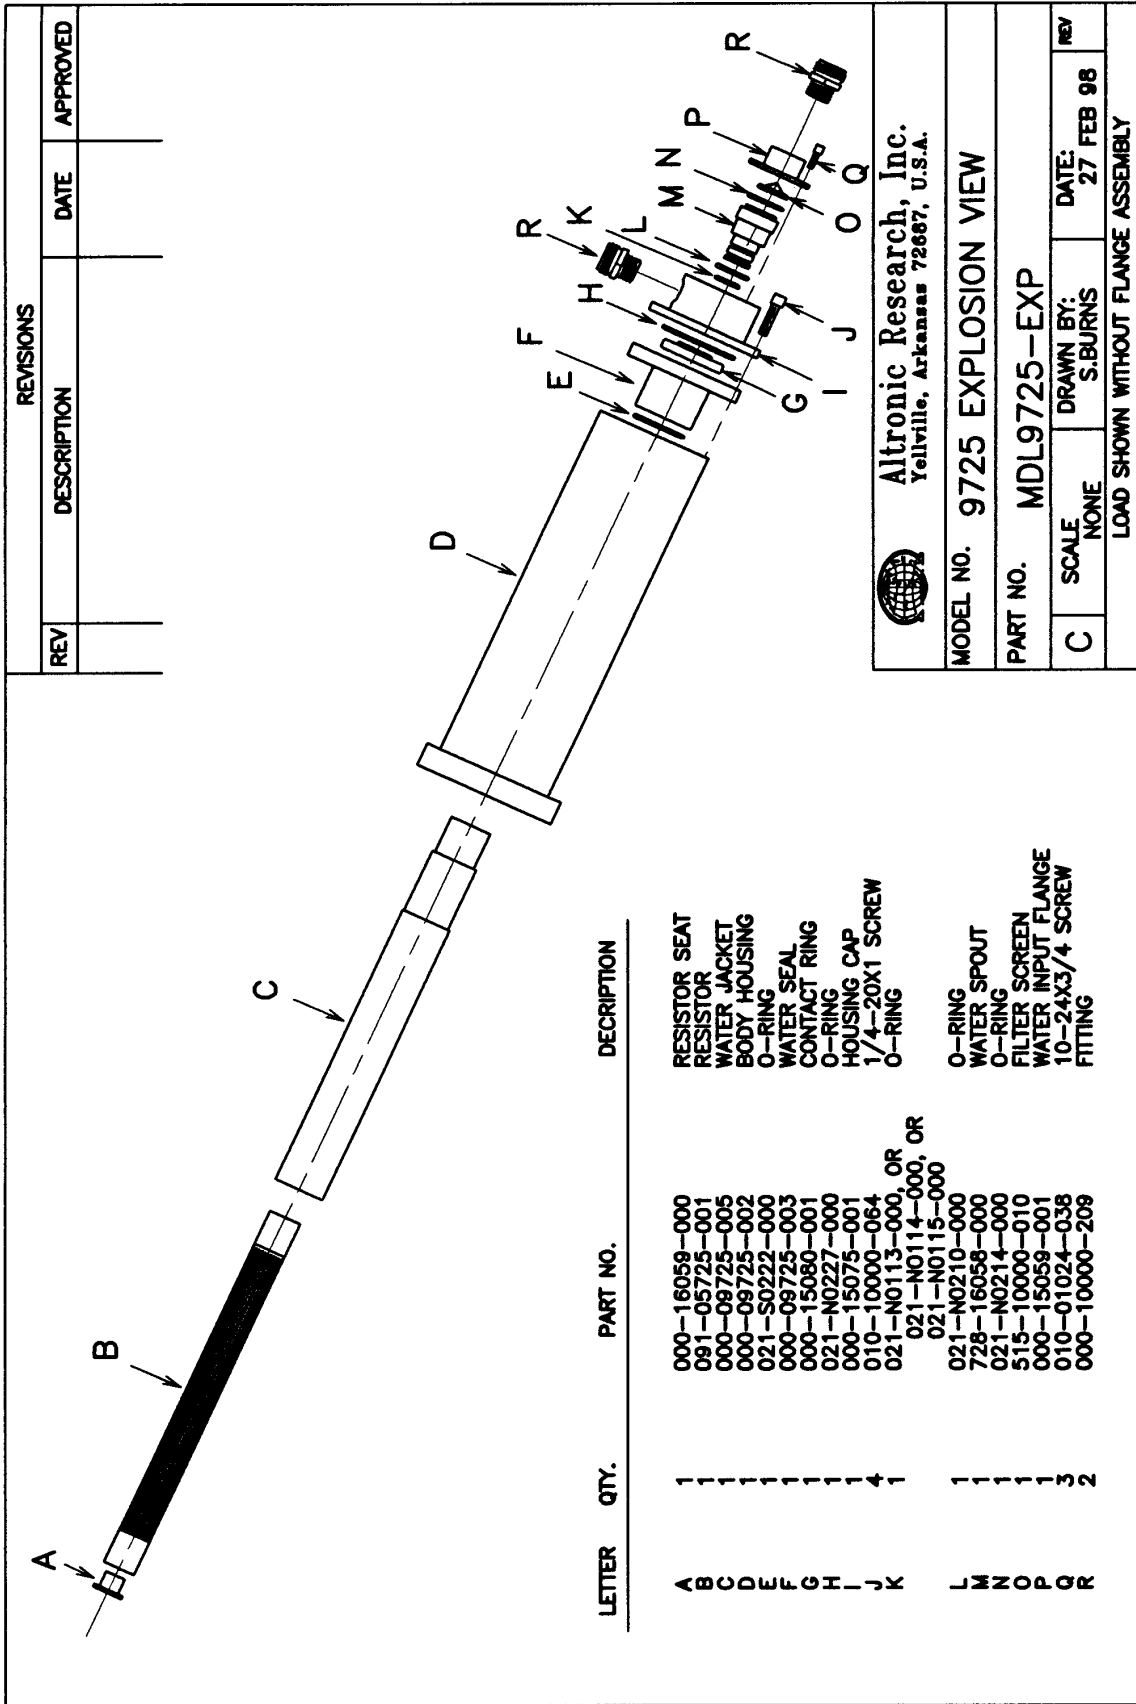
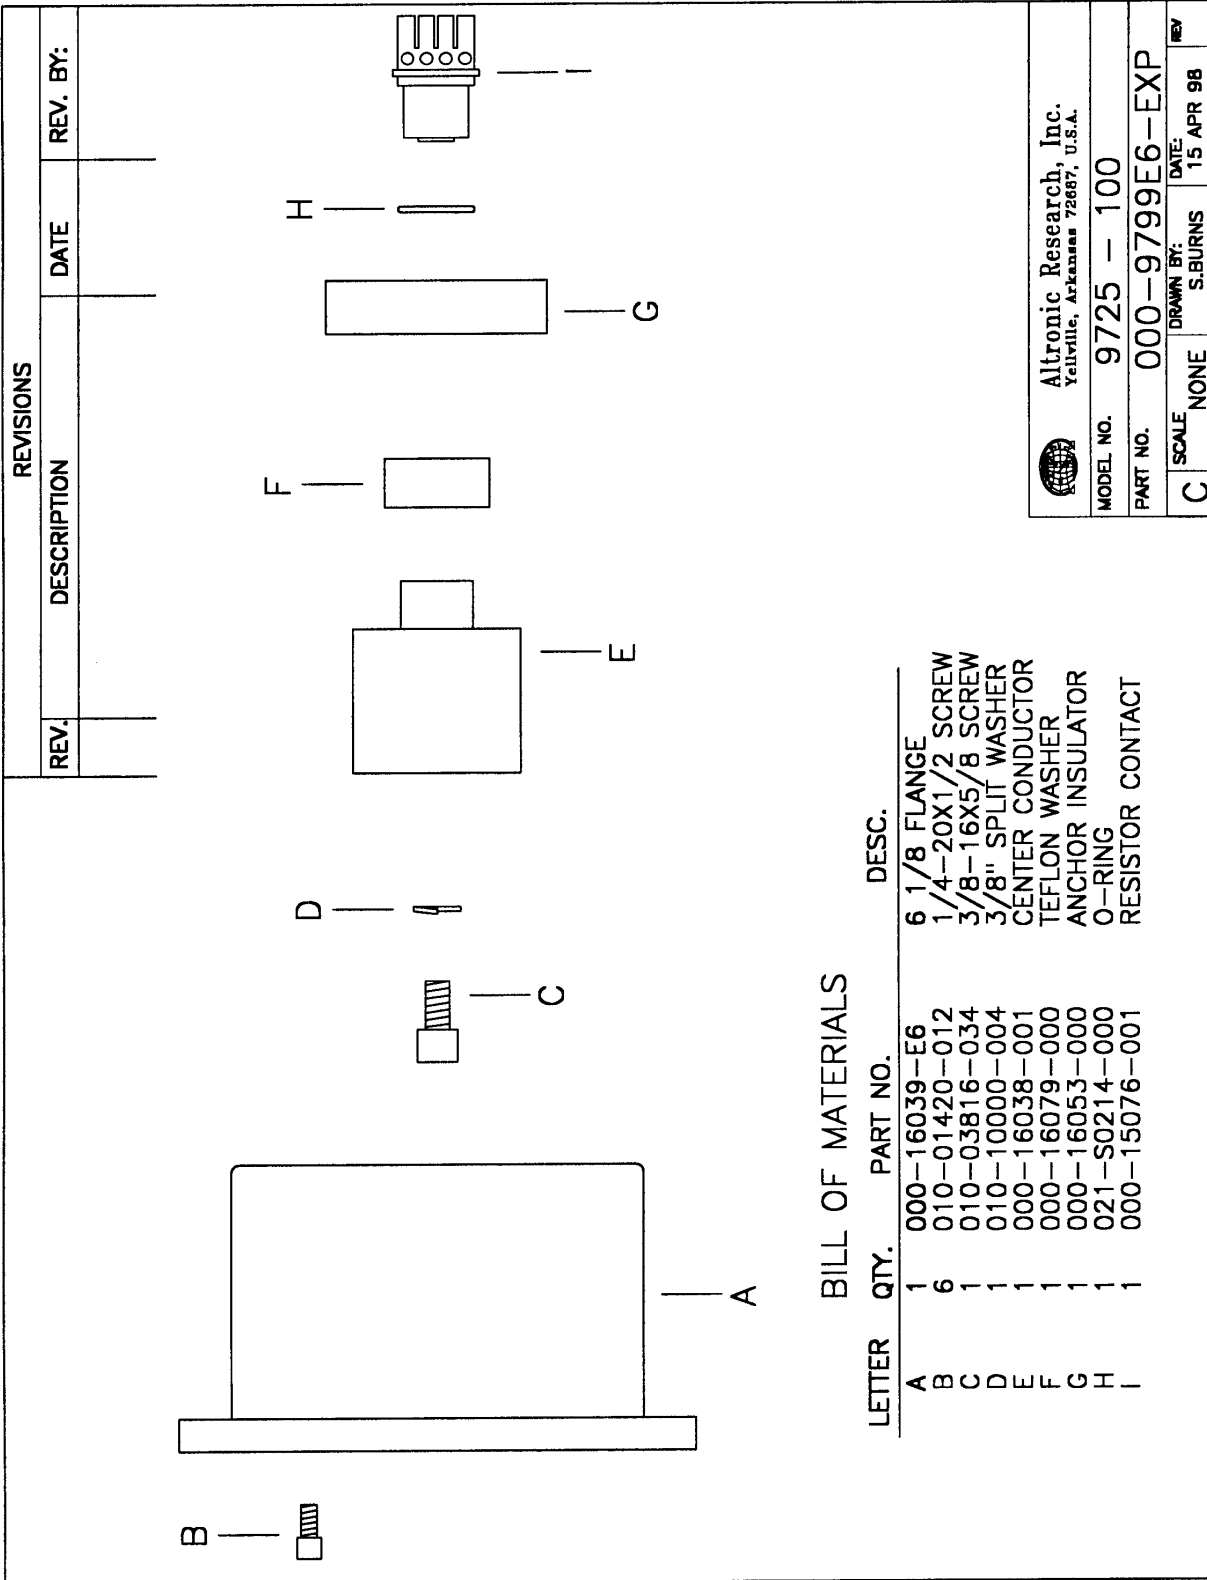

Fig. 14
Fig. 15
4. **Resistor Replacement** - (Refer to Fig. 14) To replace the resistor element, remove the three 10-24x3/8" cap screws (item Q). Remove water input assembly (items O, P, and R). Inspect filter screen for damage, replace if eroded or torn. Remove four 1/4-20x1" cap screws (item J). Remove housing cap assembly (items G, H, I, R, K, M and N). Inspect all O-rings for distortion or damage. Replace if pinched, cut, burned or no longer round in cross section. Inspect ring contact (item G) for signs of arcing or loss of silver in the
- 5. Removal of RF Input** - (Refer to Fig. 15) To remove the RF input line adaptor flange, remove six 1/4-20x1/2 socket head screws (item B) that secures the line adaptor flange (item A) to the load body housing (item D, Fig. 14). The RF input assembly consisting of the center conductor, anchor insulator and front resistor contact (items C, D, E, F, G, H and I) will normally remain in the load body. Grasp the center conductor (item E) by hand and attempt to pull the input assembly out of the load body using slight side to side motion while pulling. If strong resistance is encountered, it may be necessary to chill the load to allow the anchor insulator to shrink away from the load housing. This can be done by placing the load in a freezer, or packing the load in ice for 20 to 30 minutes. Once the anchor insulator has shrunk away from the load housing, the RF input assembly should be easily removed. At this point of disassembly, all components of the load can be inspected or replaced as needed. Reassembly should be done in the reverse order of sequence.